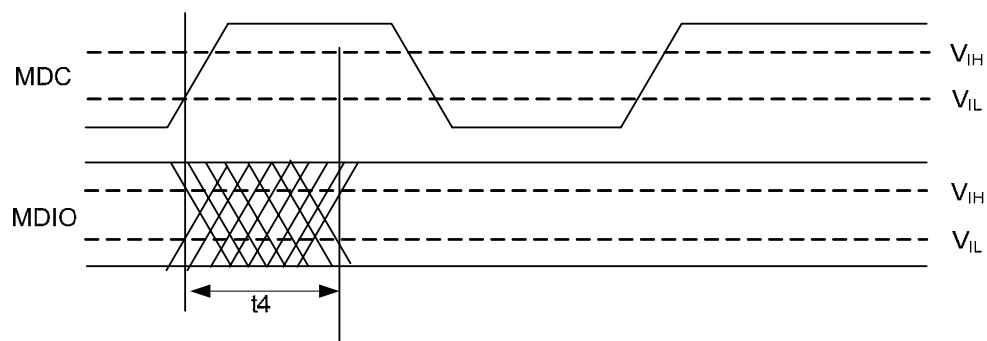

Figure 24. MDIO Sourced by RTL8214FC-VC (Slave)
- The timing characteristics t4 (Figure 24) of the Slave (RTL8214FC-VC) are provided by the RTL8214FC-VC when the RTL8214FC-VC sources the MDIO signal (Read command)